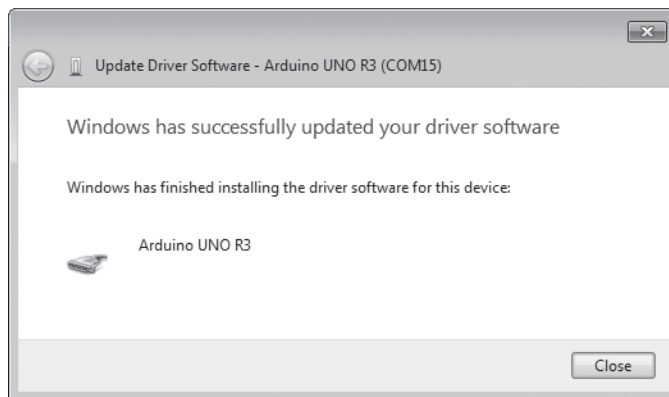

Figure 1-21: The drivers have been updated successfully.
4. Click **Next** in the dialog that follows. Windows may present a message stating that it “cannot verify the publisher of the driver software.” Click **Install this software anyway**. After a short wait, Windows will tell you that the driver is installed and the COM port number the Arduino is connected to, as shown in Figure 1-21.